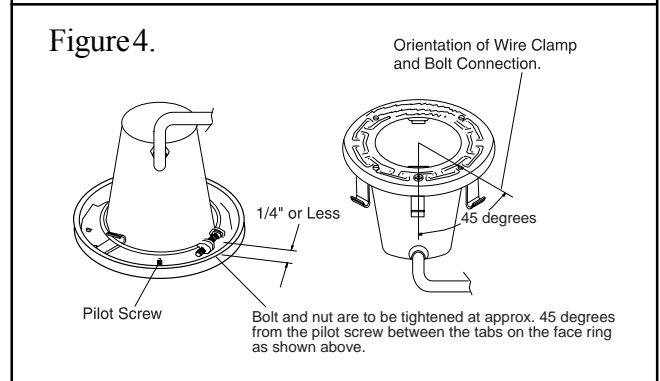

Figure 4.
1. With the light resting on its base, place the gasket assembly on top of the light shell as shown, see Figure 4. A **NEW LENS GASKET MUST BE USED EACH TIME THE LIGHT IS REASSEMBLED**. Center the stainless steel face ring and place it over the lens and gasket assembly. The locking levers should all be hanging freely down to install over the lens and gasket. Align the special pilot screw on the face ring with the letter "R" of the word "Before" as used in the phrase "SUBMERGE BEFORE LIGHTING" found on the lens surface and the compression fitting on the light shell, see Figure 1.
3. Turn the light so that it is now resting on its lens. Tighten the screw and nut until the distance between the ends of the clamp equals 1/4 inch or less; see Figure 4.